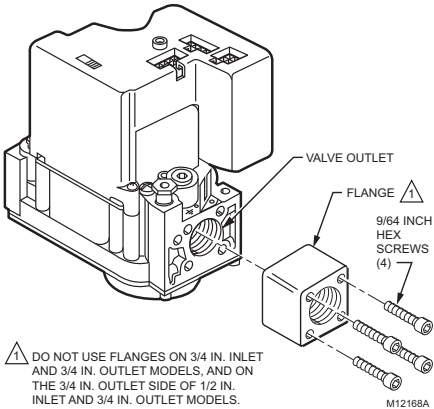

Fig. 1. Firmly fasten flange to valve, but do not overtighten screws.
4. With the O-ring facing the ignition system control, align the screw holes on the ignition system control with the holes in the flange. Insert and tighten the screws provided with the flange. See Fig. 1. Tighten the screws to 25 inch-pounds of torque to provide a gas-tight seal.